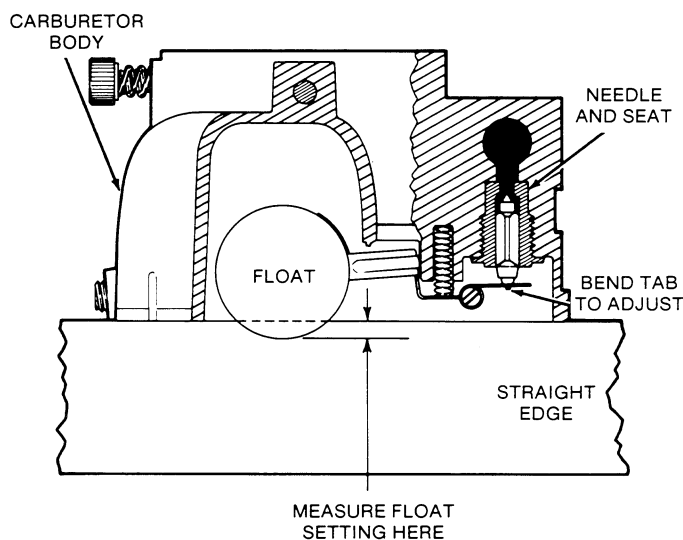

FIGURE 14. FLOAT LEVEL ADJUSTMENT
4. Invert the carburetor and check the float setting (see Figure 14). The float should have a  $0.02 \pm 0.02$  inch ( $0.5 \pm 0.5$  mm) drop from the machined mating surface (without gasket). Place a straight edge across the body of the fuel bowl and measure at the point shown in Figure 14.
5. If the setting is incorrect, remove the float assembly to adjust. Bend the assembly slightly at the location specified in Figure 14.